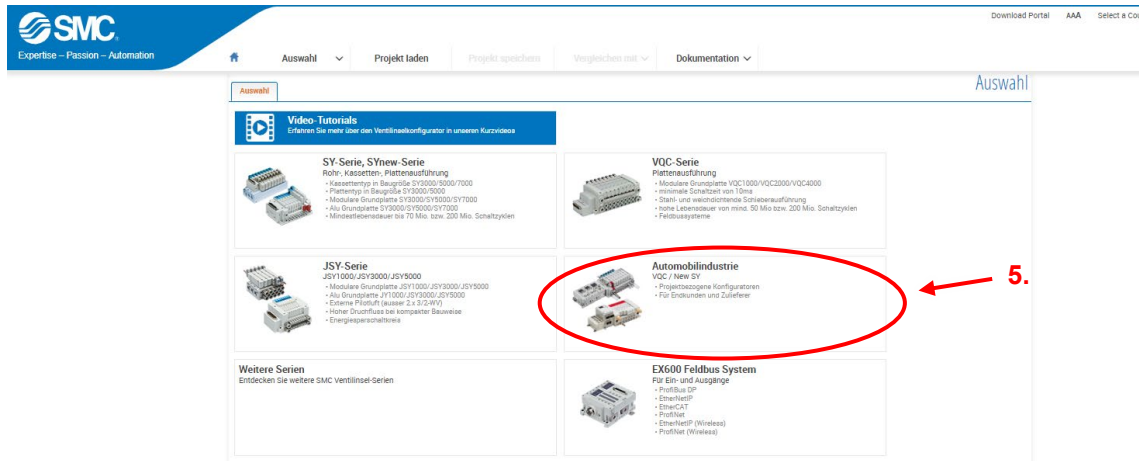

Figure 3
5. Click on the “Automotive industry” button (Figure 3).